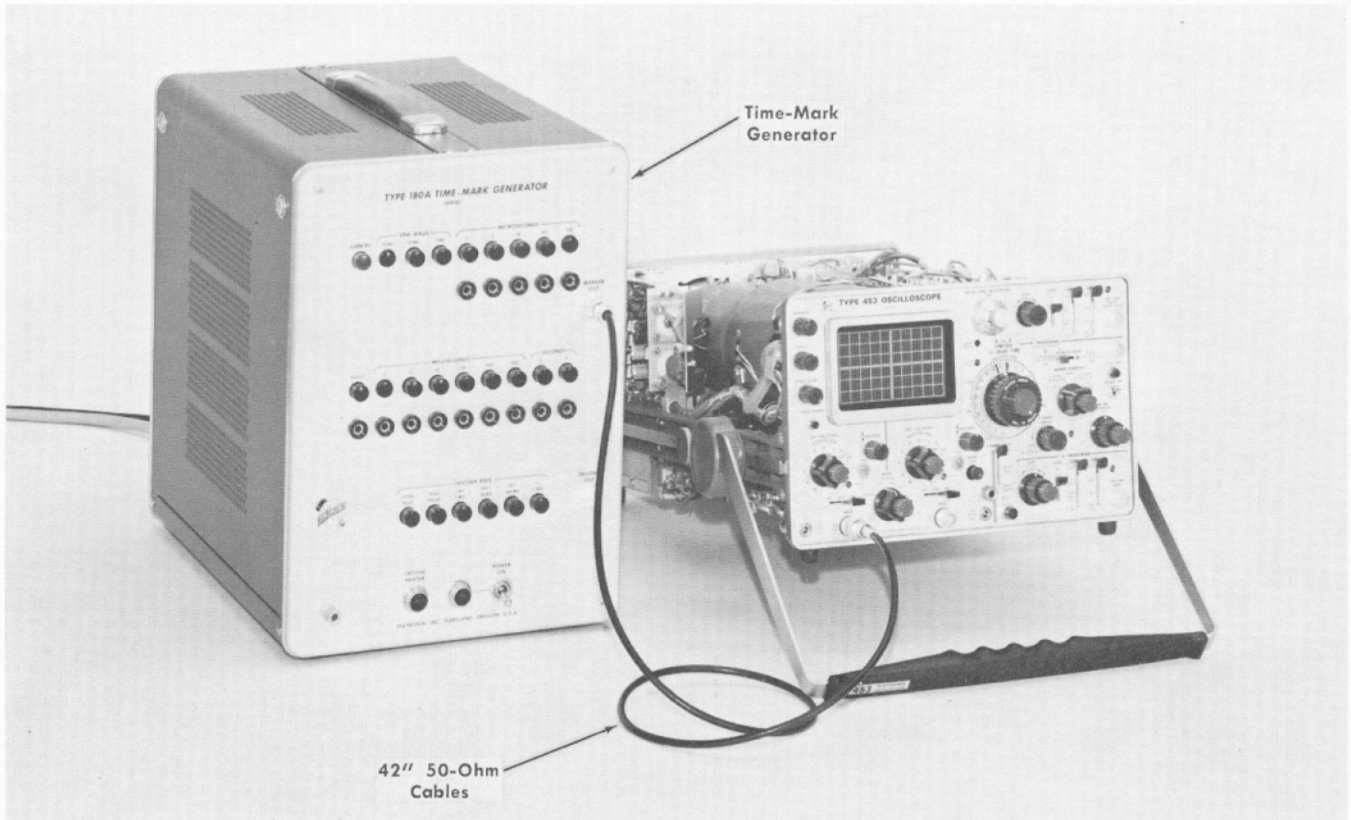

Fig. 6-14. Initial test equipment setup for steps 9 through 13.
- a. Test equipment setup is shown in Fig. 6-14.